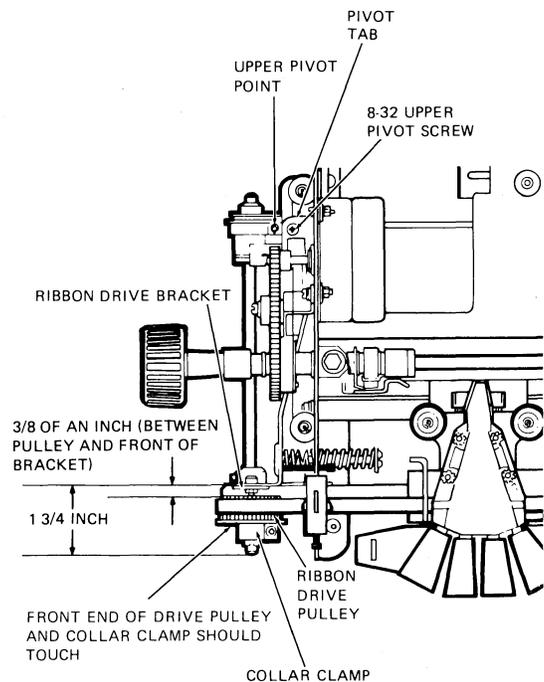

Fig. 9-Ribbon Drive Adjustment
- (c) Loosen the 6-32 allen-cap screw that secures the collar clamp and drive pulley to the ribbon drive shaft. Remove the collar clamp and the drive pulley (Figure 9).
- (a) Remove the collar clamp from the defective pulley and hand press it onto the new drive pulley (line up the front edges of the collar clamp and drive pulley) (Figure 9).
- (b) Replace the ribbon drive pulley and the collar clamp on the ribbon drive shaft and adjust them to give a clearance of 3/8 inch between the ribbon drive bracket and the ribbon drive pulley (Figure 9). Tighten the 6-32 screws.